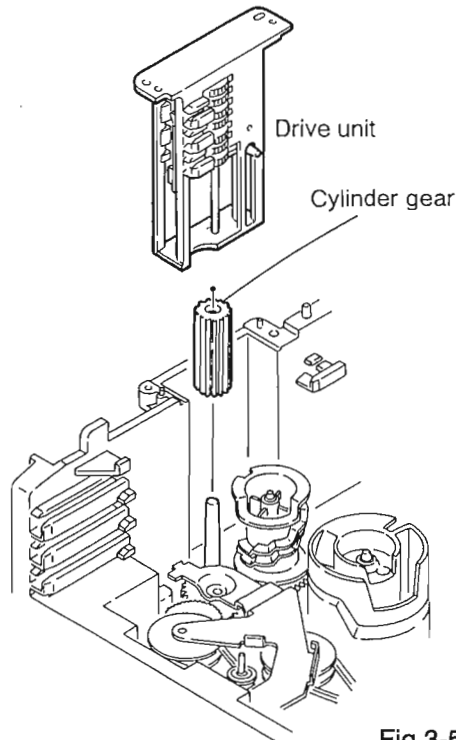

Fig.3-51
3. Pull out the drive unit and cylinder gear (See Fig.3-51).